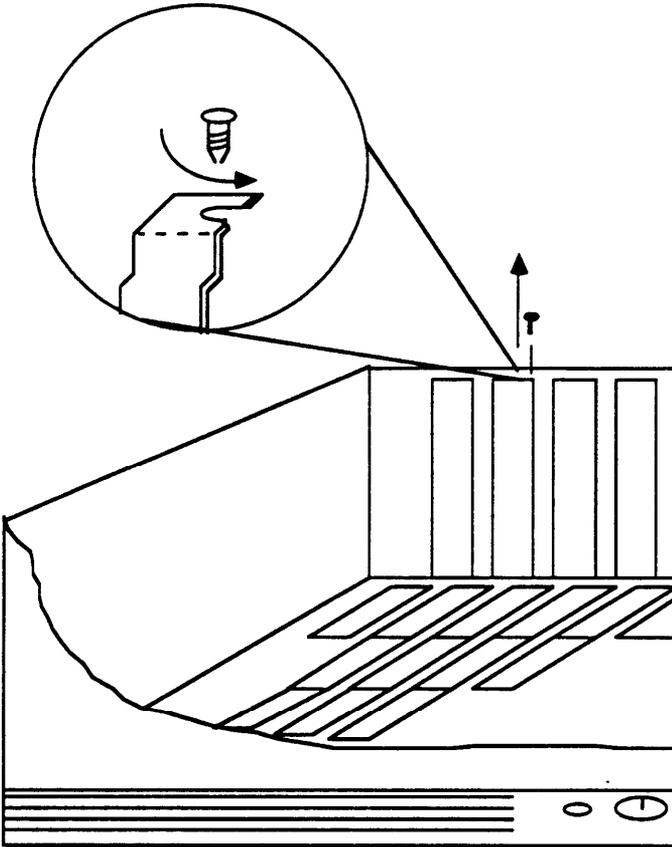

Figure 3-2. Removing a Bracket-Retaining Screw
1. Remove the screw from the metal cover of the expansion slot that you selected. Set the screw aside to use later (Figure 3-2).